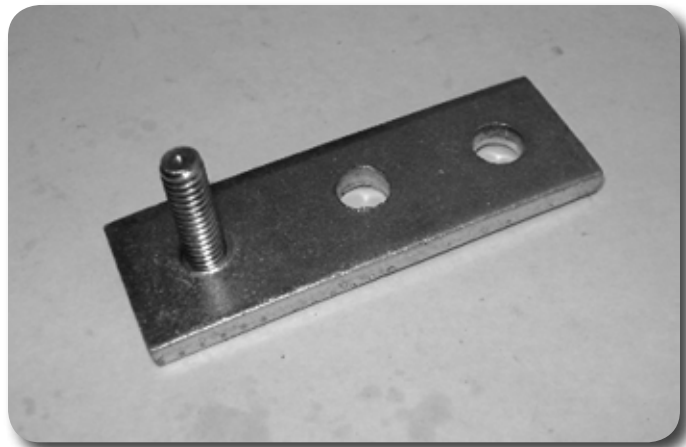

Figure 12
17. Locate the six provided radiator drop brackets. The brackets will have a captive stud and two holes. **Figure 12** Mount the brackets using the middle hole to the six original radiator mounting holes on the core support using the factory hardware. Be sure the brackets are hanging straight (studs toward the bottom) and tighten hardware to 10 ft-lbs.